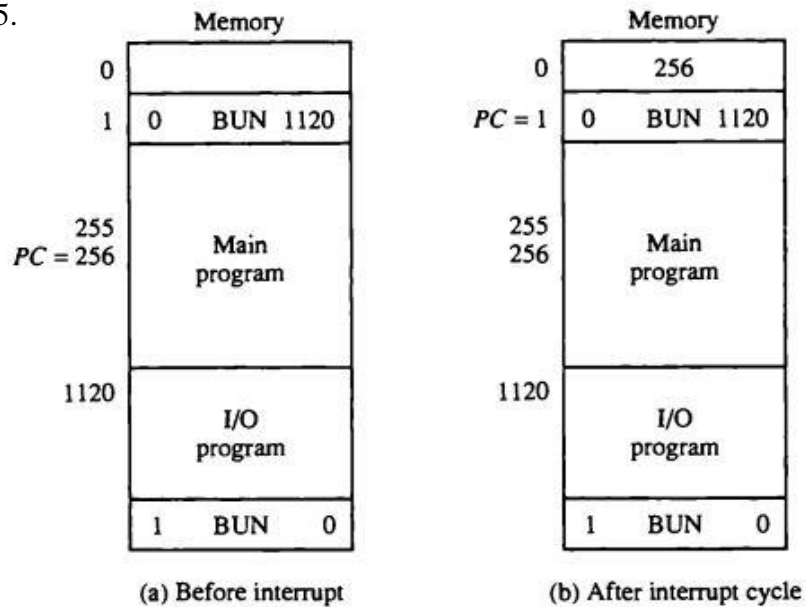

Figure 1-NN: Demonstration of the interrupt cycle
- The programmer has previously placed an input-output service program in memory starting from address 1120 and a BUN 1120 instruction at address 1. This is shown in Fig. 1-NN (a).
- The content of PC (256) is stored in memory location 0, PC is set to 1, and R is cleared to 0. At the beginning of the next instruction cycle, the instruction that is read from memory is in address 1 since this is the content of PC.